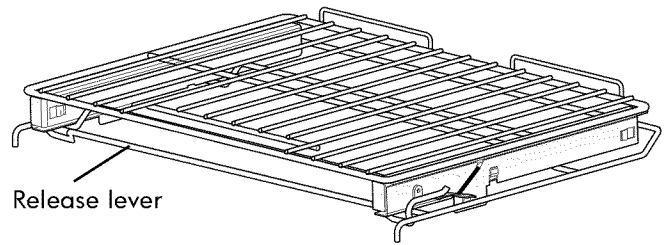

Figure 4: Extensible glide rack with release lever in locked position
1. Lift up on the release lever located across the lower front of the rack, as shown in Figure 4.